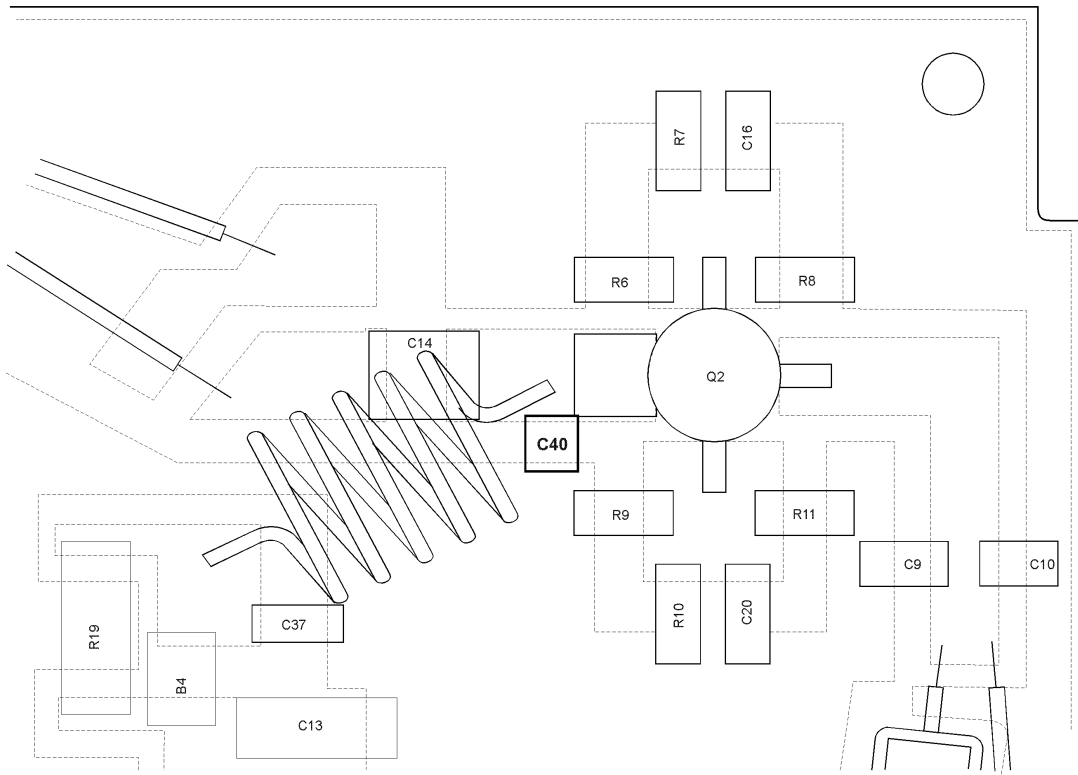

Figure 2
5. Install item 3 (C40) as shown in Fig. 2. Scrap away the solder mask on the ground plane side to enable soldering of item 3.